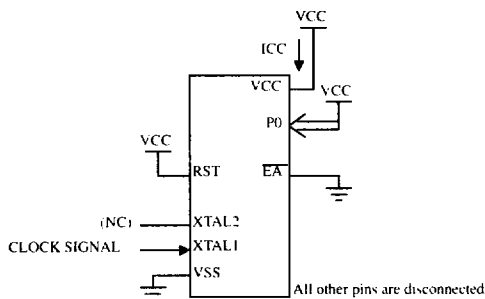
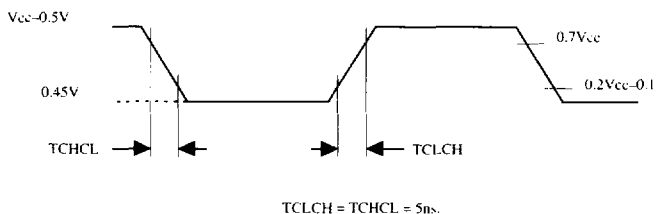

Figure 17. ICC Test Condition, Active Mode.
Figure 20. Clock Signal Waveform for ICC Tests in Active and Idle Modes.
- ICC is measured with all output pins disconnected; XTAL1 driven with TCLCH, TCHCL = 5 ns (see Figure 20). $V_{IL} = V_{SS} + 0.5\text{V}$, $V_{IH} = V_{CC} - 0.5\text{V}$; XTAL2 N.C.; EA = RST = Port 0 = VCC. ICC would be slightly higher if a crystal oscillator used (see Figure 17.)